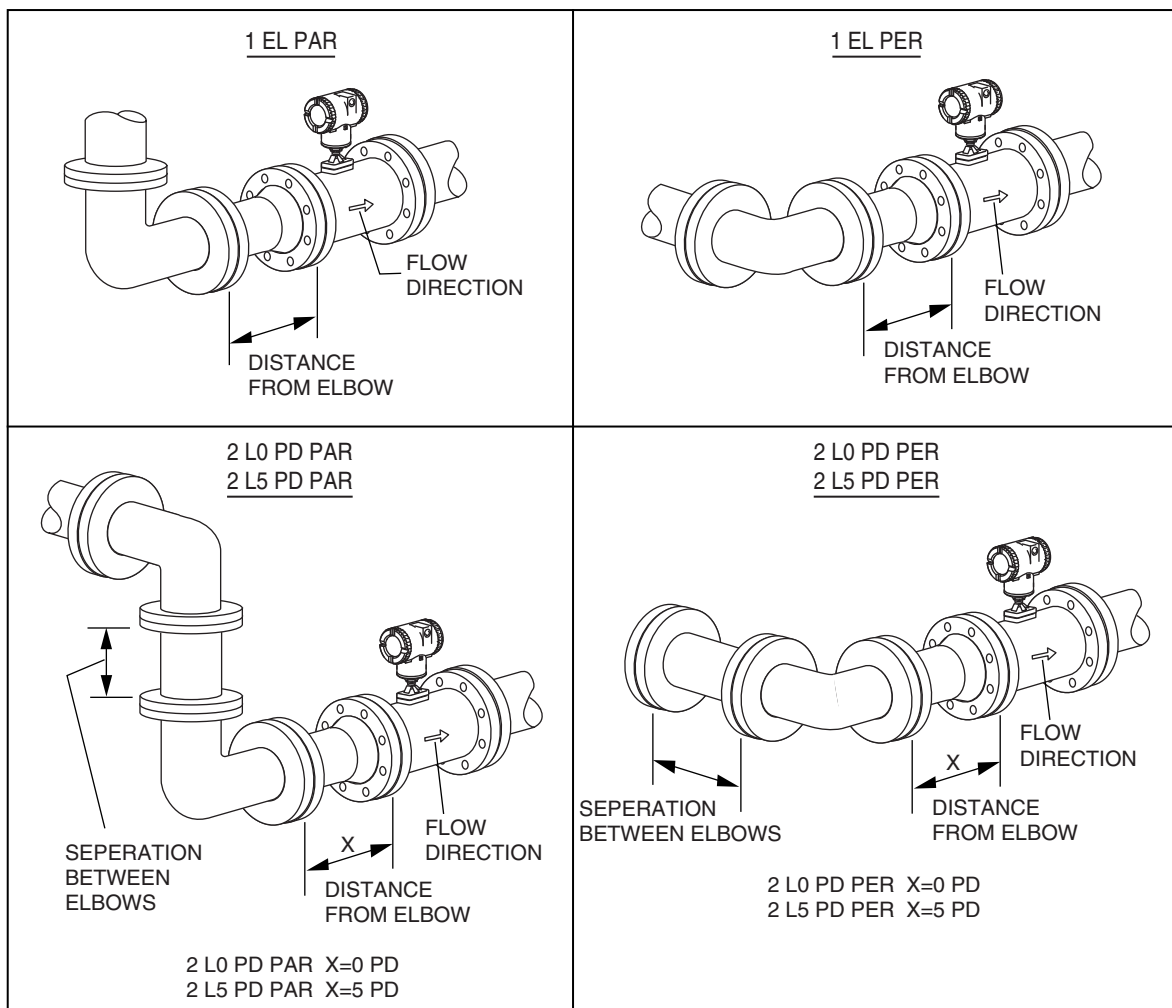

Figure 30. Piping Configurations
- ◆ In **4 Config**, select the upstream piping configuration from the following picklist (see Figure 30):